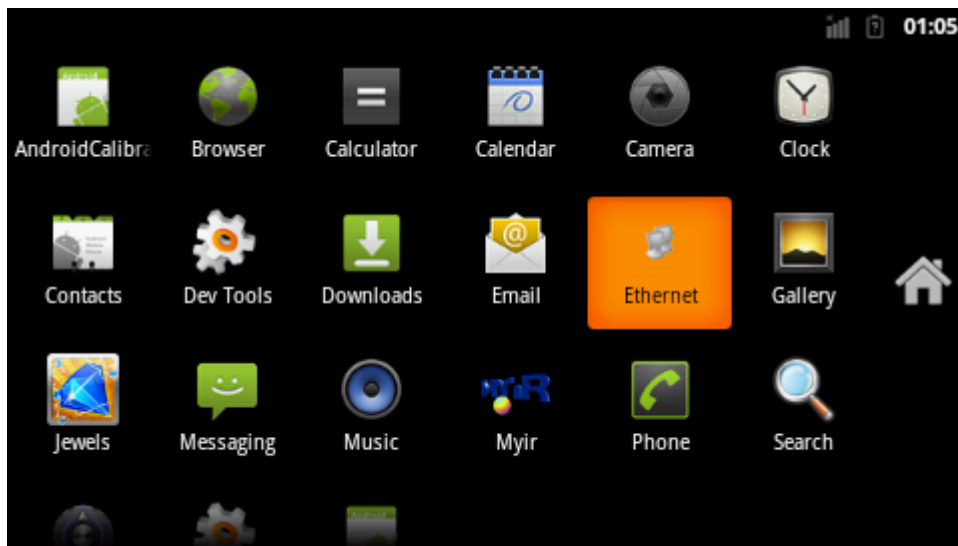

Figure 5-22
(1) Locate and click Ethernet figure. Refer to figure 5-22: